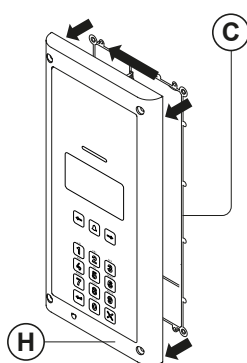

Fig. 64
7. Next close in the front support frame (H) and then pull it back from the flush box (C) while moving it slightly to the left, following the guide arrows, as shown in **Fig.64**;